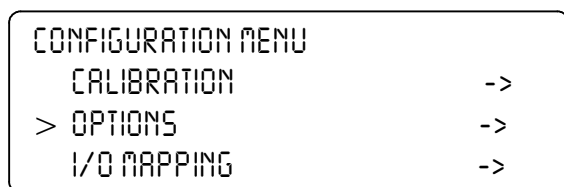

FIG. 66: CONFIGURATION MENU/SELECTING OPTIONS
- Step 2. Push the up or down arrows until the cursor is next to "OPTIONS". (See Fig. 66)